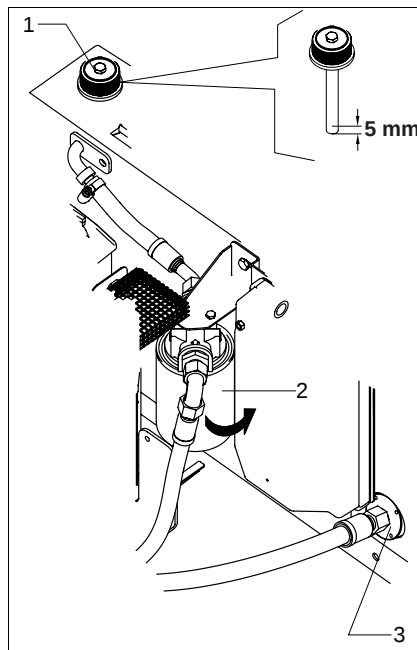

Fig. 24 Hydraulic fluid filter
- Unscrew plug with dipstick (Fig. 24/1)
- Turn hydraulic fluid filter (Fig. 24/2) counter-clockwise to loosen it and unscrew